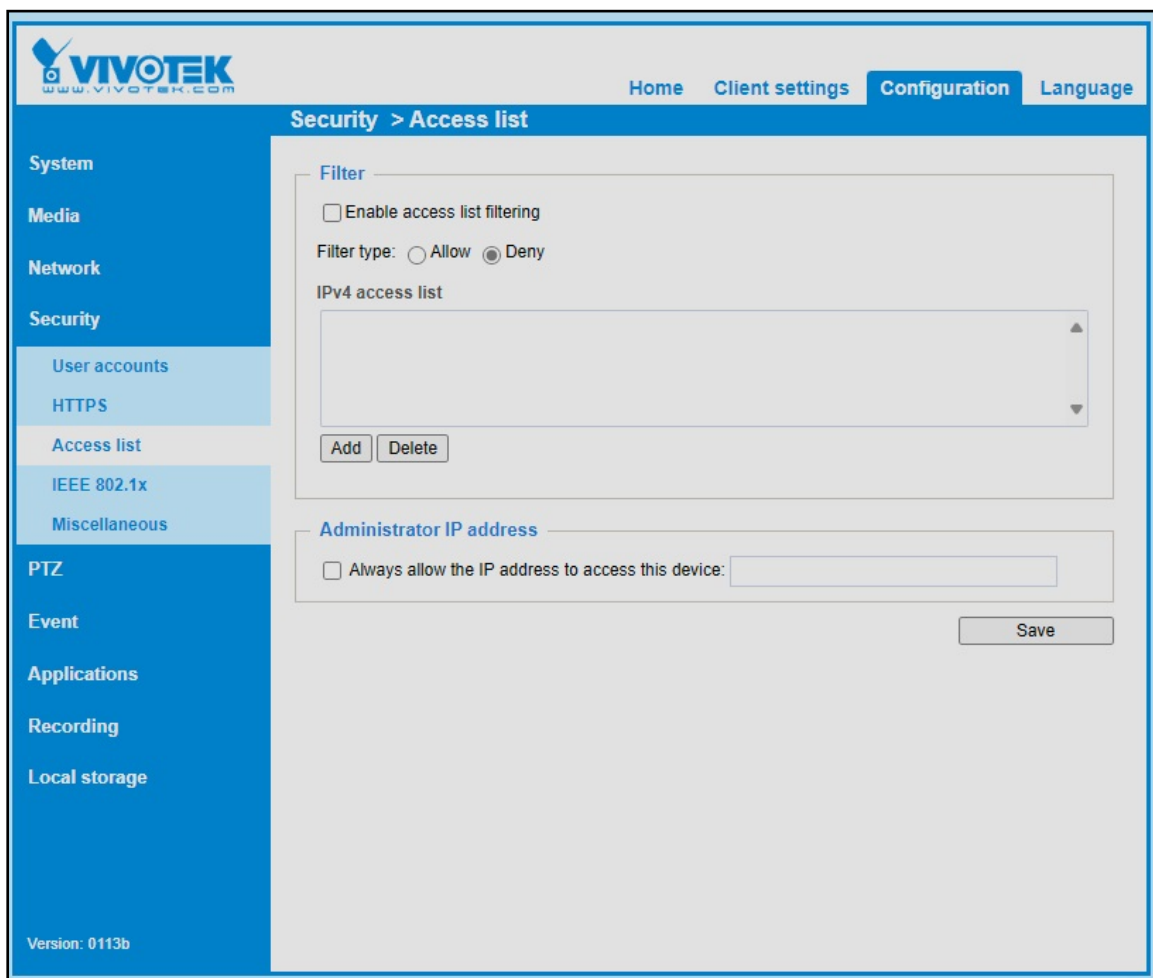

Figure 6-21. Access List Filter Disabled
**NOTE:** Figure 6-21 provides an example of the Access List Filter parameter disabled. Consult VIVOTEK documentation for more information.